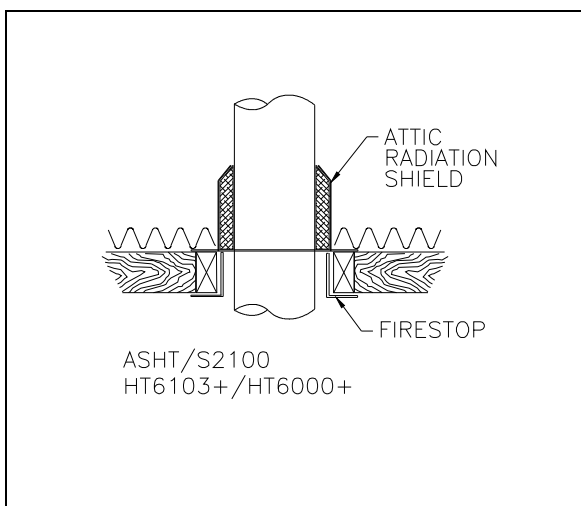
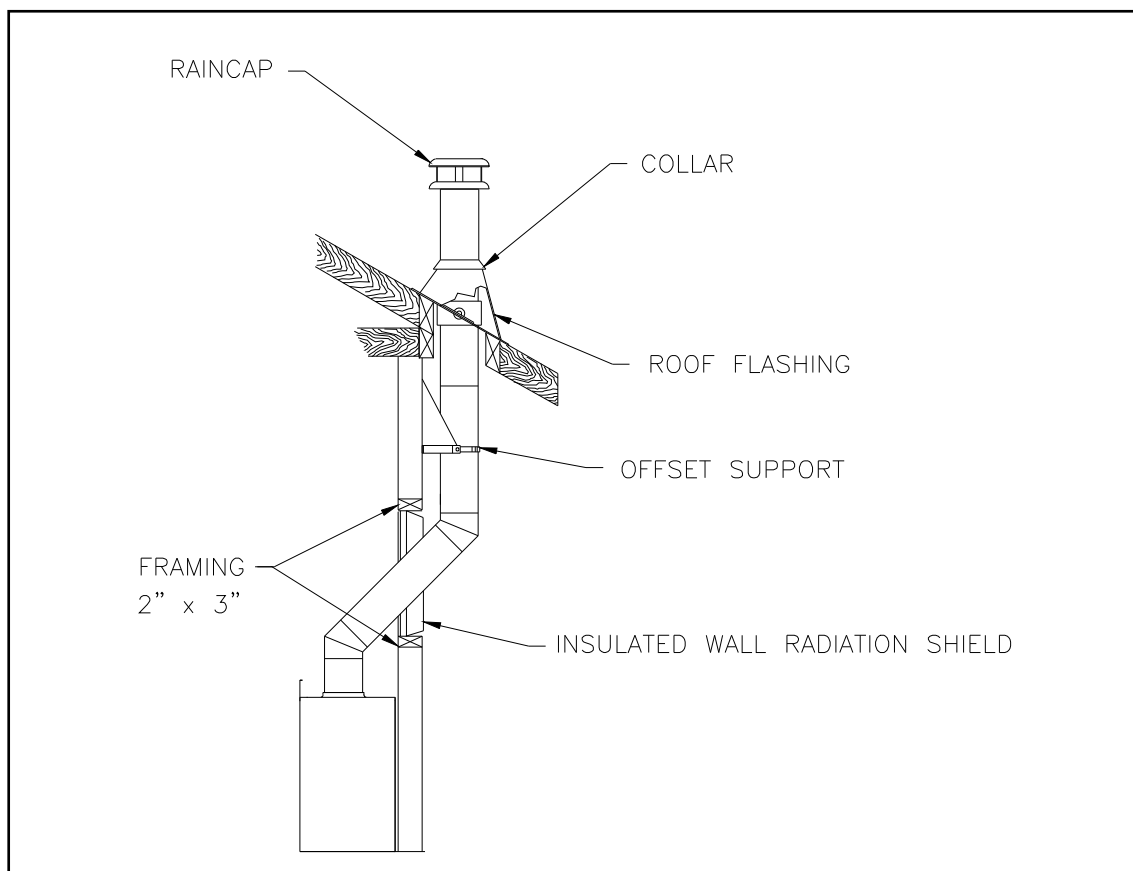

Figure 28
Figure 34
2. From below, install a firestop in each ceiling/floor separation through which the chimney will pass. At the attic level, install an attic radiation shield from above (figures 28 & 29).
1. Install the first elbow; turn it in the required direction. Fasten it to the chimney with the three (3) ½" (12 mm) metal screws provided with the elbow.
2. Install the necessary chimney lengths to achieve the required offset. Lock the chimney lengths together: it is recommended to use three (3) ½" (12 mm) screws. If the offset length is made of two (2) chimney lengths or more, use an offset or roof support halfway up the offset. If penetrating a wall, install a wall radiation shield (see figures 34 & 35).
3. Use another elbow to turn the chimney vertically. Secure the elbow, using three (3) ½" (12 mm) screws (provided with the elbow).
5. From below, install a firestop (See figure 28).